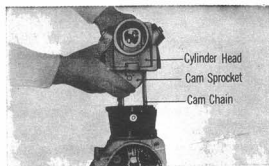

Fig. 29
1. When installing the cylinder head, the cam sprocket must be contained within the cylinder head (Fig. 29).